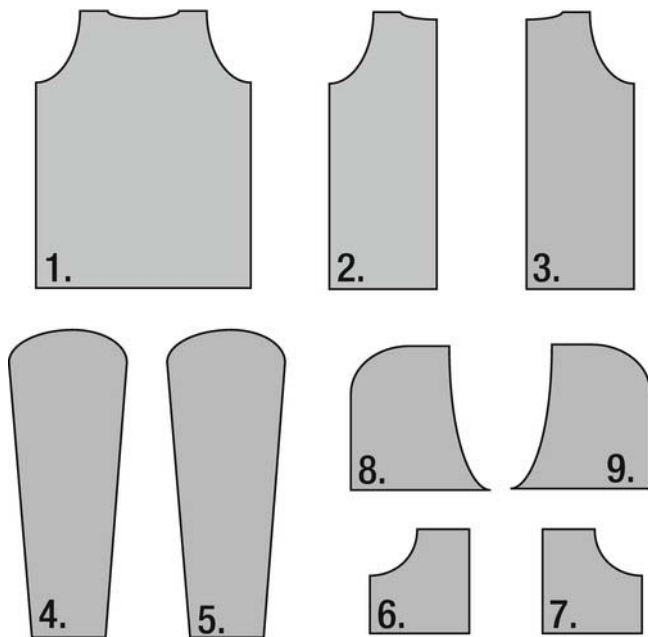

Figure 9-1. Zip hoodie pattern
Start by cutting out all the pieces needed for the hoodie. Figure 9-1 shows the suggested shapes for a zip/button hoodie. I have not included any measurements for this pattern since it's hard to assume a design that will fit all people.
The hoodie's individual pattern pieces, shown in Figure 9-1, are as follows:
- *The back of the hoodie (piece 1 in Figure 9-1).* Start by placing your T-shirt on the fabric of your choice with the arms of the T-shirt folded in, as shown in Figure 9-2. Then cut around the edges, adding about 2 centimeters around the shape.
- *The pockets (pieces 6 and 7).* Now you cut the pockets. Remember that the shape in Figure 9-1 is just a suggestion that you can modify according to how deep and big you want your pockets. Cover the rounded edge with some rib knit fabric.